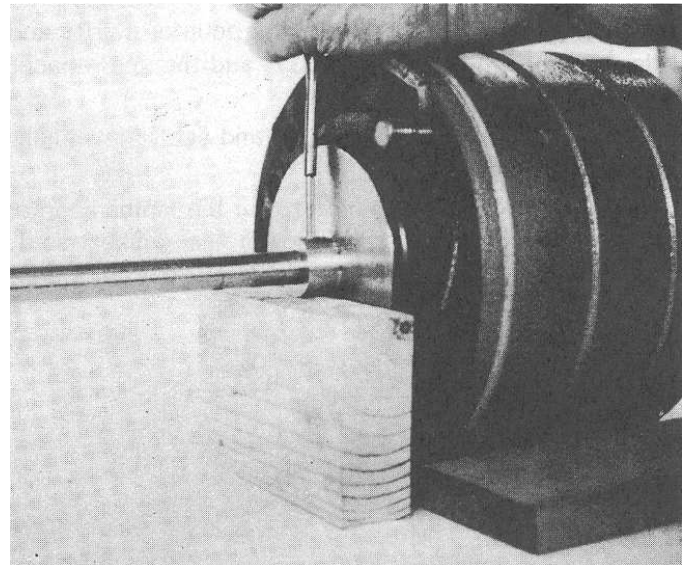

Figure 5
place 2 x 4 block on edge under impeller hub and level shaft and diffuser casing with the addition of thin wood under diffuser casing or 2 x 4 block as necessary and as instructed in Disassembly Step 14 (see Figure 5). Proceed to tap a Driv-Lok pin into impeller hub and shaft as directed in Reassembly Step 3.
6. Remove one of the four stud bolts in pump base and place into one of the diffuser casing stud holes. The longer threaded end should face toward the top end of the shaft (see Figure 5). The purpose of this is to keep all subsequent diffuser casings and gaskets lined up.